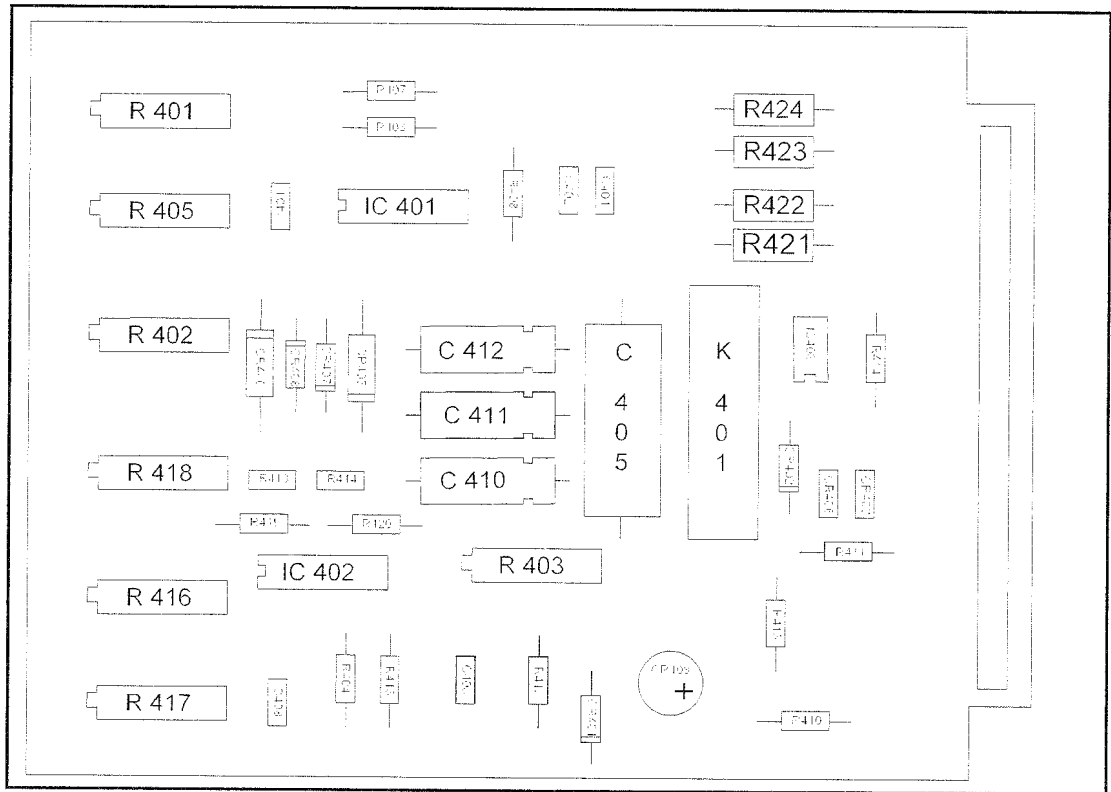
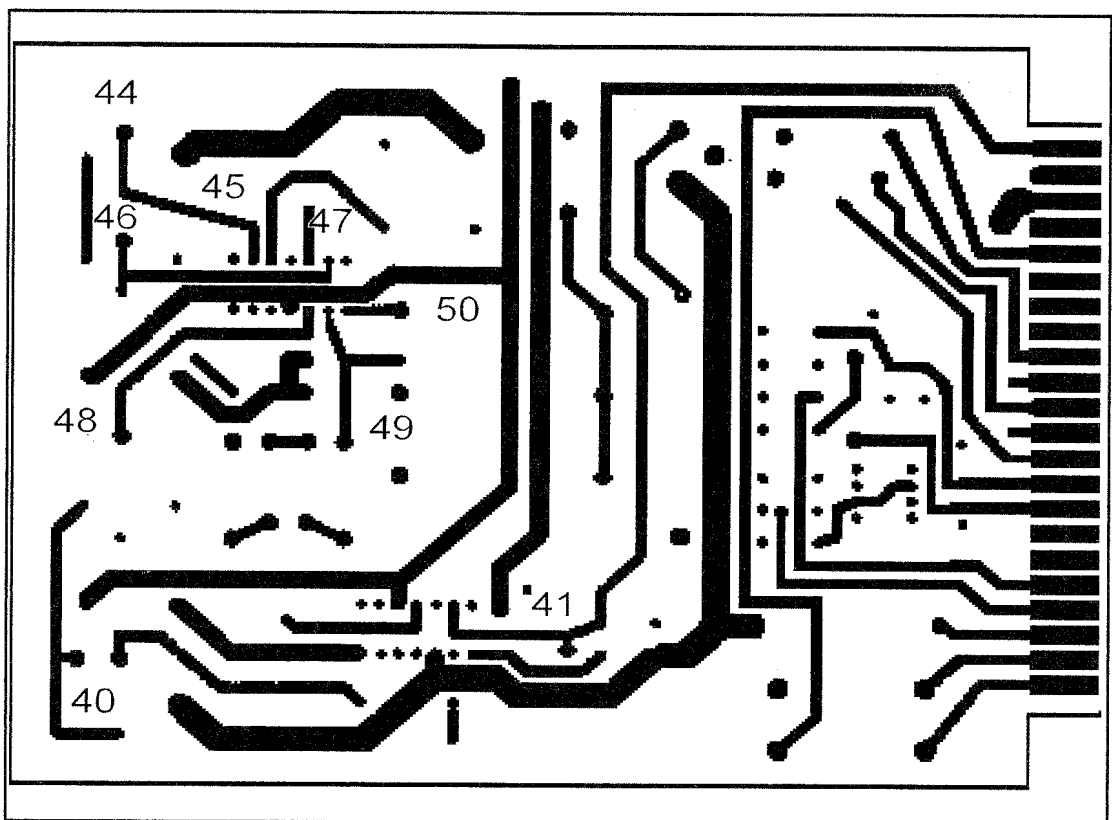

Figure 10 Protection Board 885057 component side
Figure 11 Protection Board 885057 solder side
Remove 15 amp fuse from front panel. Measure 0.0 mV DC at test point TP-41 in Figure 11. This is accomplished by pressing the RESET bottom. It may be necessary to hold down the RESET button for the output relays to stay energized. Adjust trimpot R405 in Figure 10 or readjust trimpot R230 on signal generator board if necessary to obtain 0.0 mV. Replace 15 amp fuse in front panel.
Set test point TP-41 in Figure 11 to 100 mV DC by turning the OUTPUT LEVEL knob on the front panel up approximately ½ turn.
Set test point TP-40 in Figure 11 to 100 mV AC by adjusting trimpot R402 in Figure 10, or readjust R230 on the Signal Generator Board.
7.6.3 Adjust Low voltage at output terminals to match RMS volt meter. Adjust trimpot R401, Figure 10.
Measure 2.0 V AC at test point TP-40, Figure 11. This is adjusted with OUTPUT LEVEL control on the front panel.
7.6.6 Adjust High Output Voltage to match RMS voltmeter. Adjust Trimpot R401, Figure 10.
With Amplitude knob turned up  $\frac{1}{2}$  turn and Frequency set to 1 KHz, set the signal at the output terminals to 1 V AC by adjusting trimpot R230, Figure 10.
Record +DC voltage at (TP-44) \_\_\_\_\_. Increase amplitude to 17 volts, Adjust trimpot R417, Figure 10. Decreasing the DC volt at test point TP-44 will trigger CLRV at a lower current.
Disconnect 6220-1A. Measure DC voltage at test point TP-46. Record voltage \_\_\_\_\_. Readjust to +5 V DC with trimpot R416, Figure 10 to prevent interference with NLRV circuit adjustment.
7.8.3 Adjust NLRV at test point TP-48. Record voltage \_\_\_\_\_. Adjust trimpot R418, Figure 10, to trigger at 24 to 25 VAC by increasing amplitude and increasing or decreasing DC voltage at test point TP-48, Figure 11, to trigger at the desired voltage. Record new NLRV voltage \_\_\_\_\_. Readjust to a higher voltage so not to interfere with PLRV circuit adjustment.
7.8.4 Adjust PLRV at testpoint TP-46. Adjust trimpot R416, Figure 10, to trigger at 24 to 25 volts AC. Increase amplitude to 24 to 25 volts and increasing or decreasing DC voltage at TP-46 will trigger the reset circuit. Readjust new NLRV voltage at TP-48, Figure 11, with trimpot R416, Figure 10.